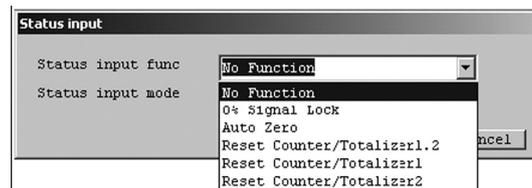

Fig.48
- ③ Click the triangle on the right side of "Status input func" as shown in Fig. 48, and select the output level from the drop-down list.